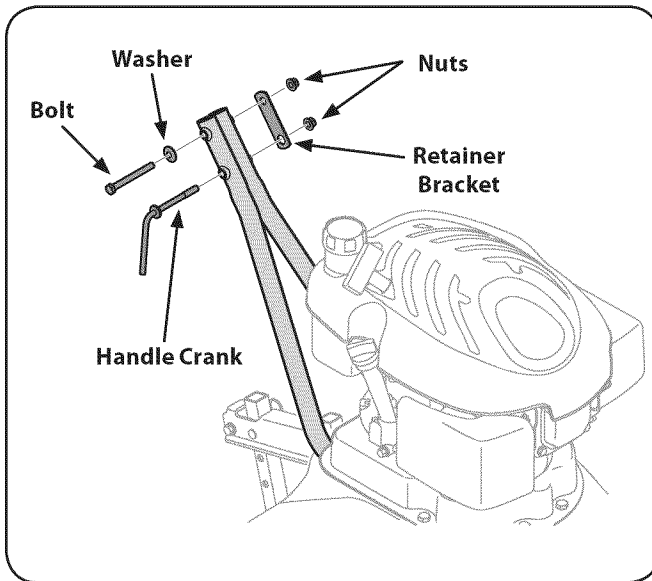

Figure 3-1
1. Remove the handle crank, bolt, washer, retainer bracket and the flange lock nuts from the lower handle. See Fig. 3-1.